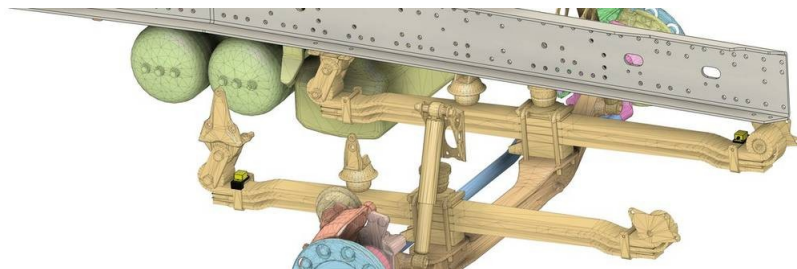

Fig. 4 – Angle sensors on the spring leaves (overview)
1. The two sensors are mounted crosswise, i.e. diagonally opposite each other on the two spring leaves (see Fig. 4).